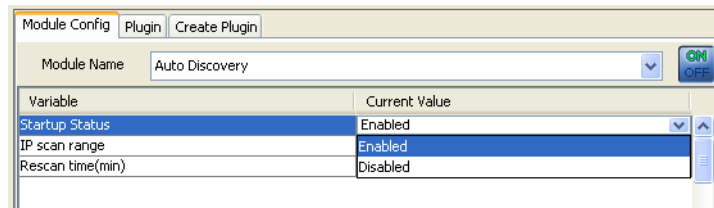

Fig. 4.46 Enable/Disable the Auto Discovery
7. You may turn on and off this option by double click on current value under Status row (see *Figure 4.46*) or click on the On/Off switch beside the pull-down button to enable the option.